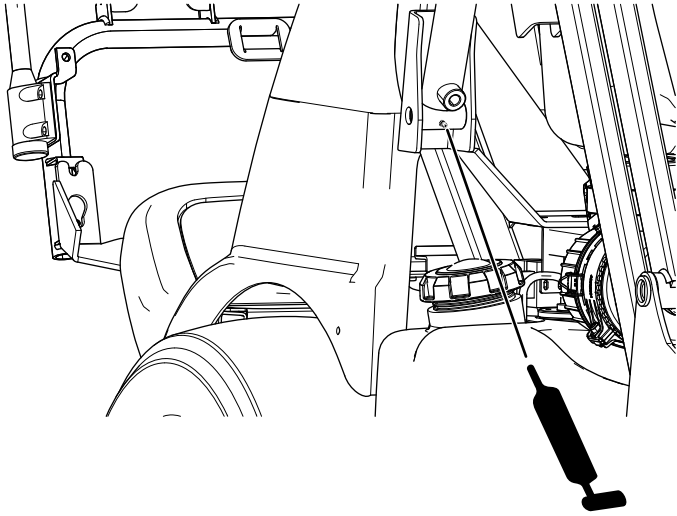

Figure 48
- Hopper arms—lower, front (Figure 48)